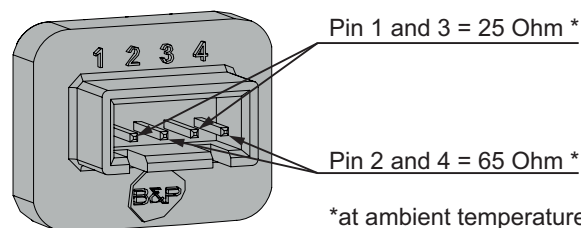

Figure 11.14
- 3 Measure the electrical resistance between the connector pins of the on-off operators as illustrated in Figure 11.14.